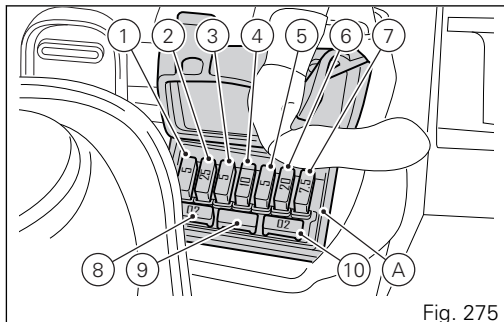
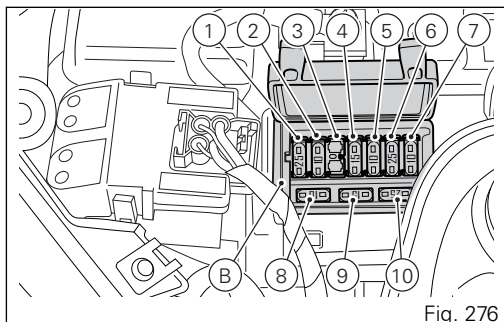

Fig. 275
Fig. 276
The front left fuse box (A, Fig. 275) and the front right one (B, Fig. 276) are located above the battery.
The main fuse (C) is located on the right side of the fuse box (B Fig. 276), on solenoid starter (D). To access it, remove the tank cover and the fuse cap (E). A blown fuse can be identified by breakage of the inner filament (F).